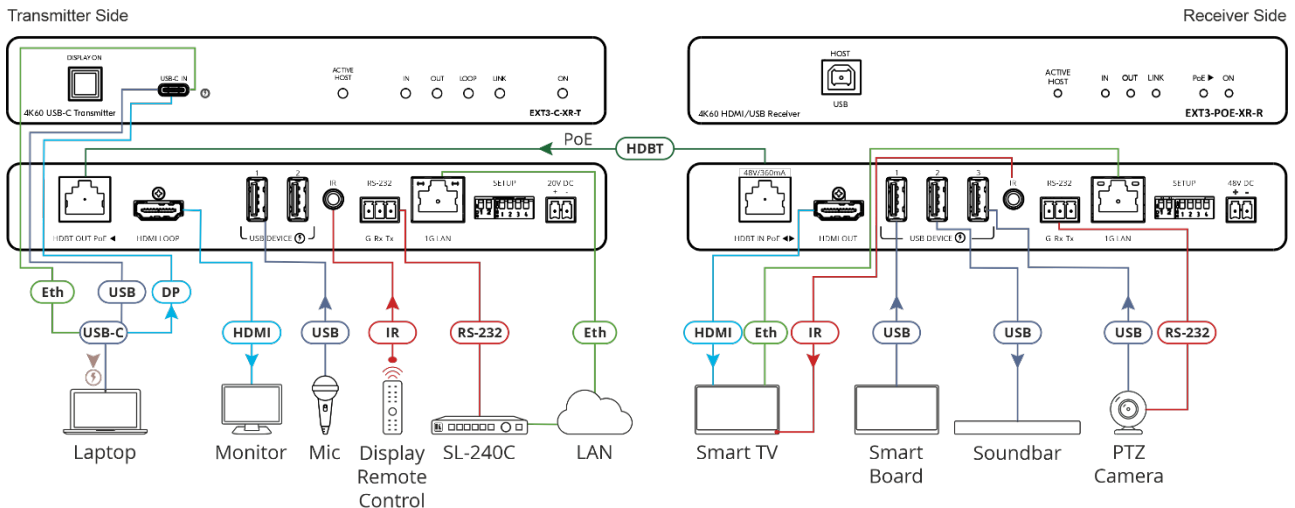

Figure 5: Connecting EXT3-C-XR-T to EXT3-POE-XR-R
**i** In the example in Figure 5, the connected USB devices, such as the mic or soundbar, are hosted via the transmitter's USB-C port (2). In this configuration, the receiver's host USB-B port (18) is inactive.
To connect EXT3-C-XR-T to EXT3-POE-XR-R as illustrated in the example in Figure 5:
10. Connect the power adapter to **EXT3-C-XR-T** and to the mains electricity (not shown in Figure 5).
11. Connect the power adapter to **EXT3-POE-XR-R** and to the mains electricity (not shown in Figure 5).